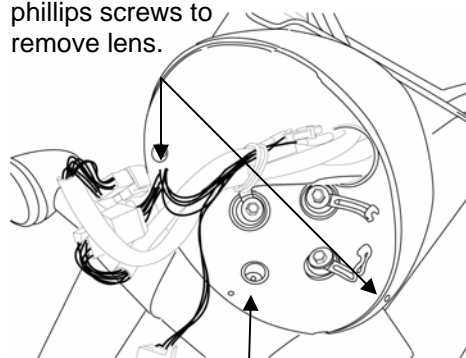

Fig 2
3. On the C90 version, remove the headlight lens and set it in a safe place. This will give you access to the upper bolt on the Turn Signal Bar cover. (Fig 2).